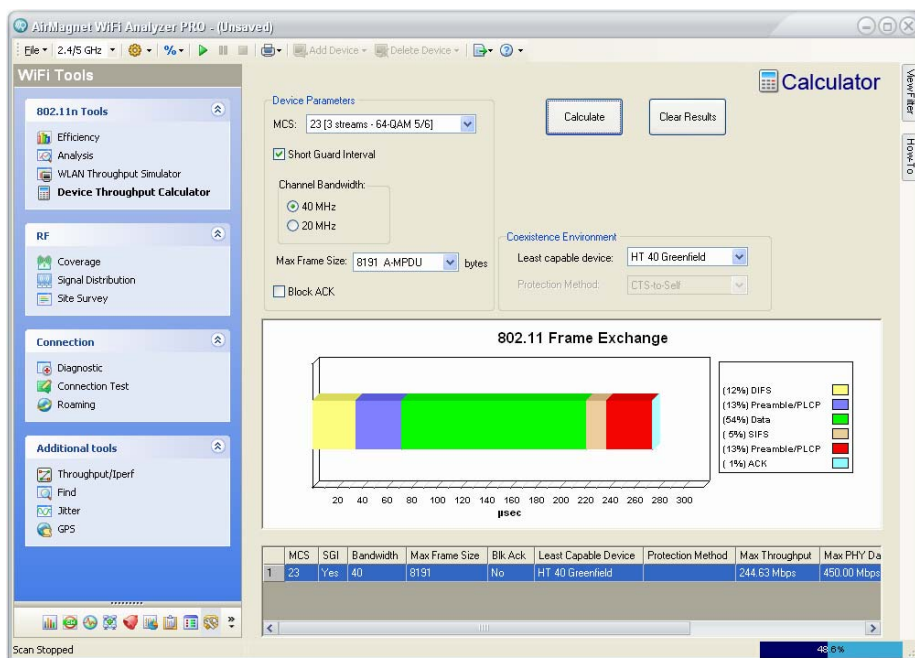

Figure 17-11: Calculating Device Throughput
- 1) From the WiFi Tools screen, click Device Throughput Calculator. The Device Throughput Calculator screen appears. See Figure 17-11.